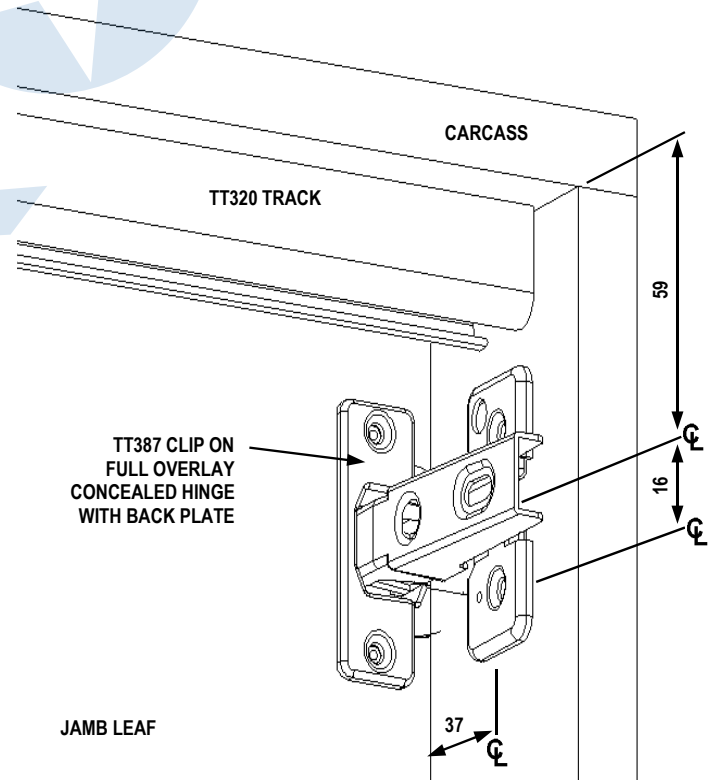

FIG. 6 - CONCEALED HINGE
- 6) UNCLIP BACK PLATES FROM DOOR AND FIX HINGE BACK PLATES AS SHOWN IN FIG. 6 - REAR VIEW OF HINGE, AT 37 mm CENTRES IN FROM FRONT OF CARCASS AND AT 75 mm CENTRES FROM TOP AND BOTTOM OF CARCASS.